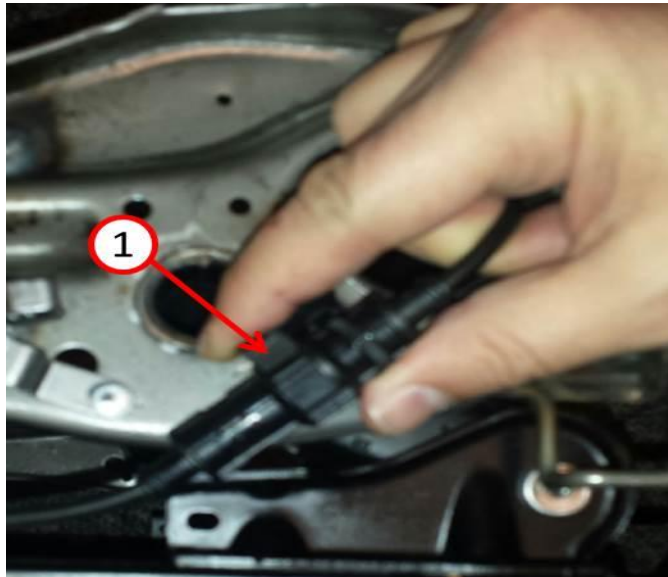

Fig. 6 Lock Adjuster
9. While pulling the conduit use the same hand to lock the adjuster (1) in place (Fig. 6)